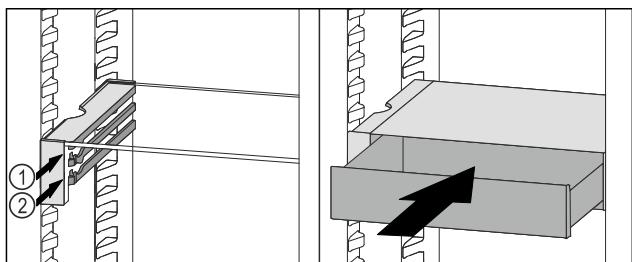

Fig. 134
- ▶ Place the VarioSafe drawer behind the stoppers on desired rib Fig. 134 (1) or Fig. 134 (2).